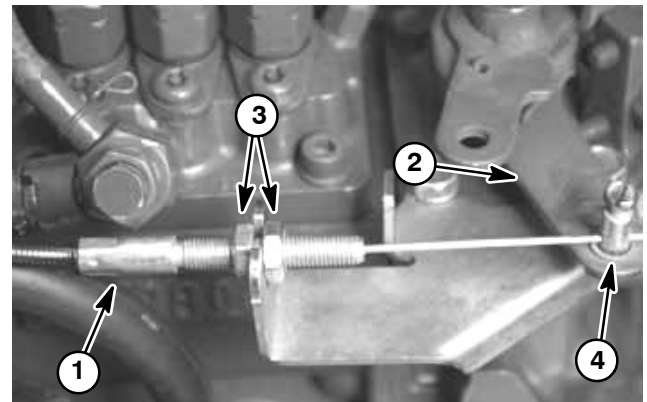
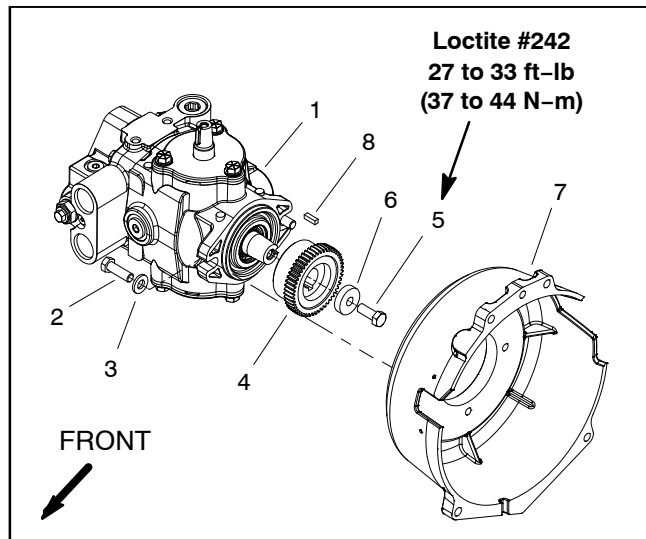

Figure 14
Figure 16
7. Loosen screw that secures the throttle cable to swivel on injector pump speed control lever. Disconnect cable from swivel and cable bracket (Fig. 14). Position cable away from engine.
10. Remove two (2) cap screws and flat washers that secure hydraulic pump assembly to bell housing on engine (Fig. 16).
13. Slowly move the engine assembly away from the hydraulic pump assembly to allow the pump coupling to slide out of the engine coupling flange (Fig. 16). Once the engine has cleared the pump coupling, carefully remove the engine from the machine.
14. If necessary, remove engine support (item 19) from engine.
5. Slowly move the engine assembly toward the hydraulic pump assembly to allow the pump coupling to slide into the engine coupling flange (Fig. 16).
6. Secure hydraulic pump assembly to bell housing on engine with two (2) cap screws and flat washers (Fig. 16).
A. Secure engine support (item 19) to engine mount with cap screw, mount spacer, washers and flange nut.
B. Secure rear engine plate to engine mount (item 6) with two (2) cap screws (item 12) and lock nuts (item 22).
9. Connect throttle cable to the swivel on injector pump speed control lever (Fig. 14). Adjust cable (see Adjust Throttle Control in the Adjustments section of this chapter).